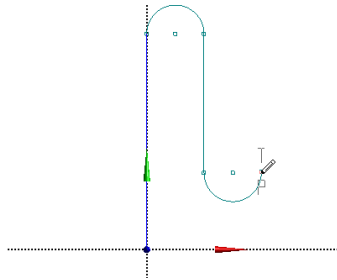

Figure 3-66 Specifying the start point of the line 3
23. Invoke the **Tangent Line** tool from the **Draw** toolbox; you are prompted to specify the start point of line. Move the cursor close to the end point of arc 2 and click to specify the start point of line 3 when the symbols of Tangent constraint (T) and Point Coincident constraint (P) are displayed, as shown in Figure 3-66.